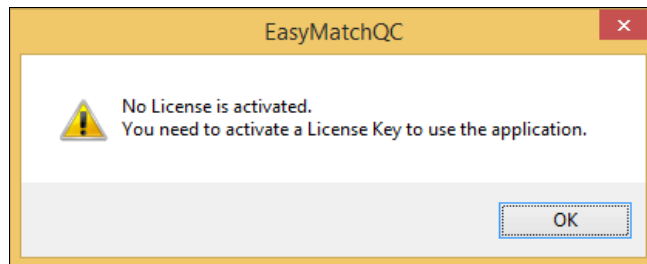

Figure 14. No License Warning
- a. From the **CHOOSE AN OPTION** page (Figure 14), select **KEY ID**.
- b. From the **CHOOSE AN OPTION** page (Figure 14), select **KEY FILE (.skl)**.